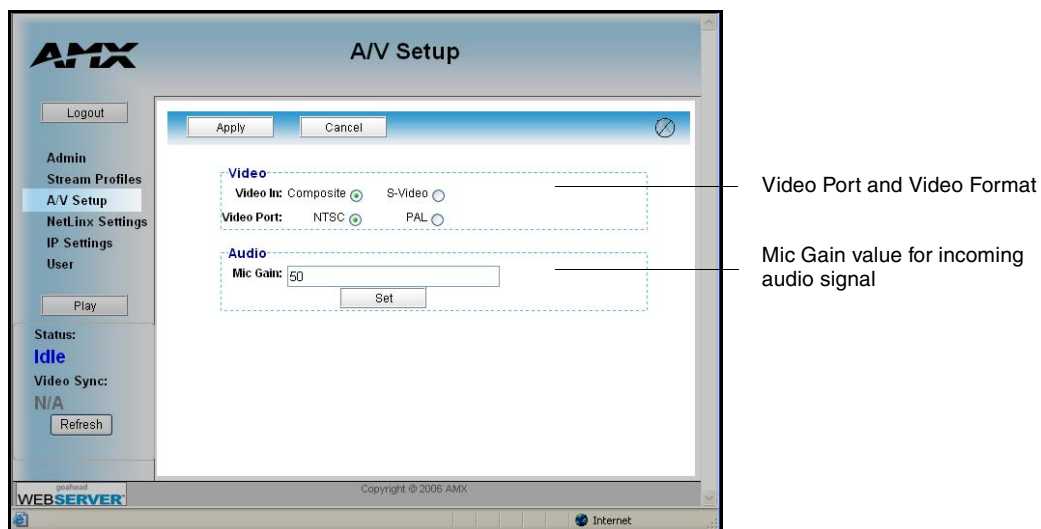

FIG. 131 A/V Setup page
2. Access the A/V Setup page (FIG. 131) by clicking the **A/V Setup** link from within the Navigation frame. This page provides the user with the ability to select the source of the incoming video signal (from either the rear Composite or S-Video port), the format of the incoming video (NTSC/PAL), and the gain given to the incoming audio signal.